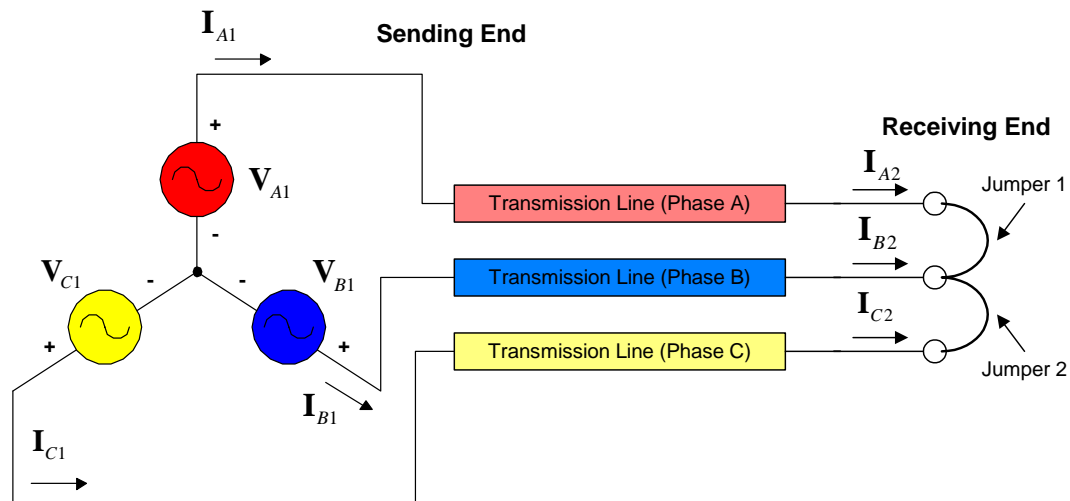

Figure 3: Short Circuit on Receiving Side ( $I_2=0$ )
4. Turn power off, open visible disconnect switch, and turn the auto-transformer down to 0. Short circuit the receiving end of the transmission line by placing two jumpers across the phases of the transmission line as shown in Figure 3 below.